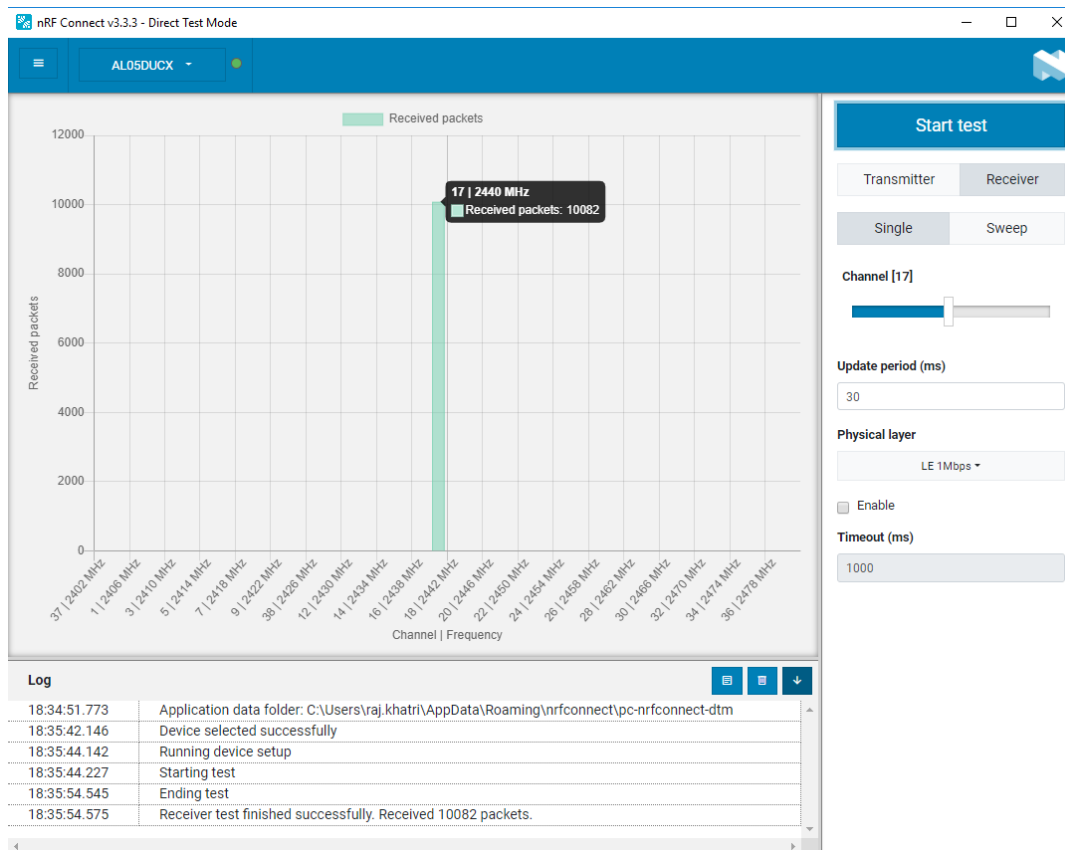

Figure 9: Successful initiation of BLE receiver test (received packets)
- Once configured, to start Receiver test, click **Start test**. Figure 9 shows a BLE receiver test running.